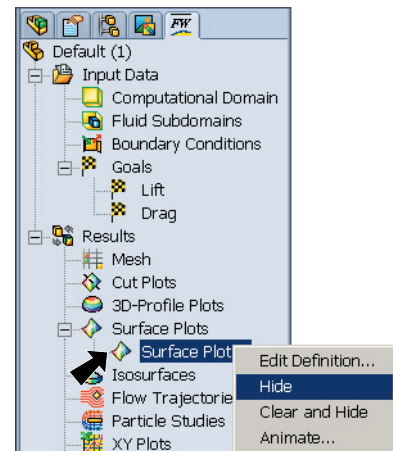

Fig. 23
- Step 3. After viewing the surface plot, **right click Surface Plots 1** in FloWorks tree and click **Hide**, **Fig. 23**.